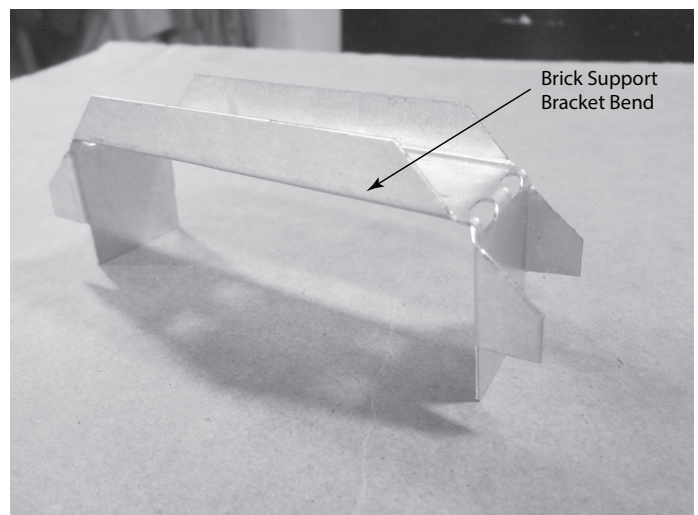

Figure 8.3 Bend Bracket
- Remove the brick support bracket from the plastic bag and bend the ends down as shown. See Figure 8.3.